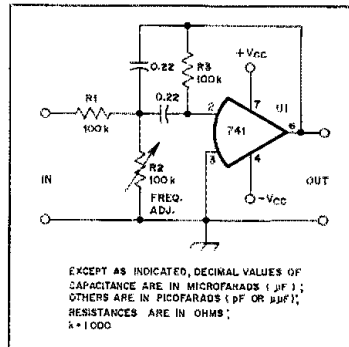

Fig. 6 — Circuit diagram of the active audio filter. R1 and R3 are 5%, 1/4-watt types. U1 is a 741 op amp.
□ This active audio filter can be built in a few hours, and parts should be available at the local Radio Shack store. The filter is unique in that the center frequency may be varied approximately 10% by adjusting R2 (Fig. 6). Changing R1 will not disturb any of the other filter parameters. With R2 at mid resistance,